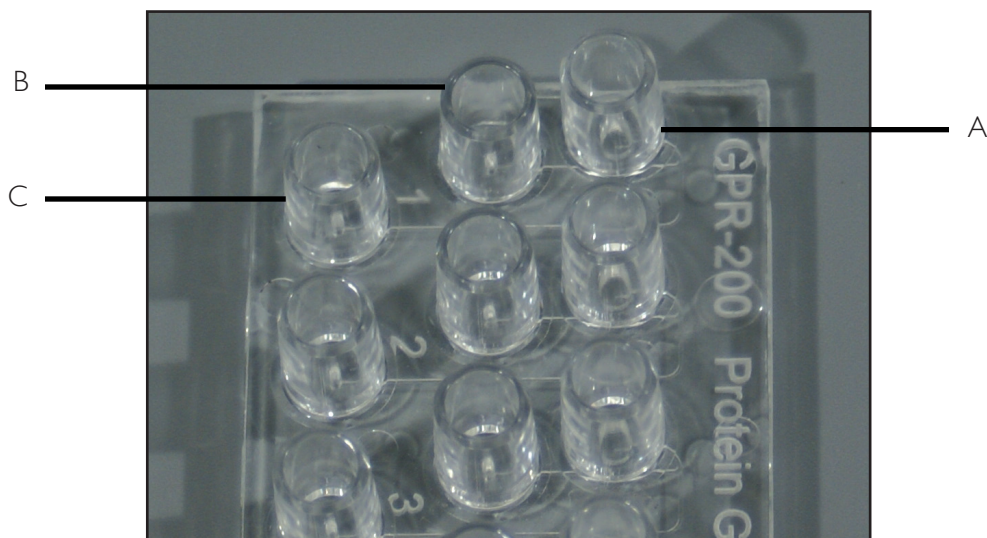

Figure 5-3. Protein GPRchip reservoirs for a single processing channel.
2. Add a cored gel plug to Reservoir A for each channel that will be run. See figure 5-3 for designation of the Reservoirs.